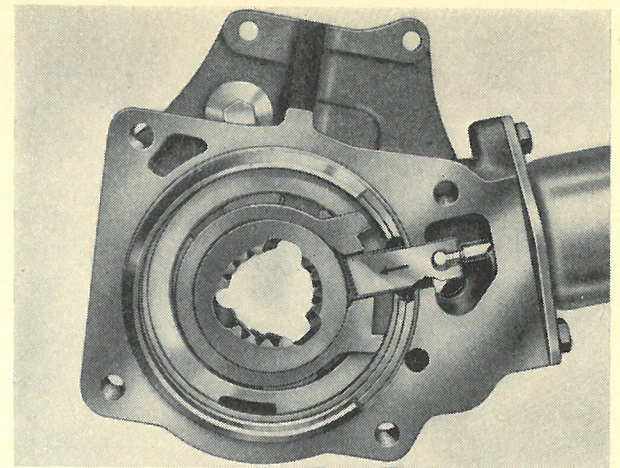

Fig. FF.12.
To effect the change into overdrive, momentarily close the throttle, whereupon the roller clutch releases and the engine slows down. At the same time the sun gear also slows down more rapidly, and when the engine speed has fallen by 30 per cent. the sun gear stands still, and then reverses its rotation. Upon the instant of reversal, the blocker ring, moved by its frictional drive from the control plate hub, also rotates slightly in the reverse direction and releases the pawl which snaps forward into the first notch of the backward rotating control plate (see Fig. FF.12). The extreme rapidity of this action ensures that the control plate cannot rotate backward more than one-third turn at the most; usually it will be less. This engagement, at nearly perfect synchronism, accounts for the smooth action of the control. Once engaged, under conditions of normal driving, the overdrive remains in action until the road speed falls to 27 m.p.h. when the governor contacts open, releasing the solenoid which withdraws the pawl (if the throttle is closed) whereupon the condition of free-wheeling drive is resumed. If the throttle is still open when the solenoid releases, the driving torque "pinches" the pawl to prevent it withdrawing; the moment the throttle is closed, the pawl is released and free-wheel direct drive is resumed.
- M3. If on assembly the blocker ring is not correctly positioned, as shown in Fig. FF.12, with the lugs on the blocker ring, one at each side of the pawl, then the pawl will be unable to move forward into engagement with the sun gear control plate. To test for this condition, remove the solenoid cover, pull the dash control knob out and roll the car forward 2 ft. (.61 m.) by hand. Earth the "Th. Sw." terminal of the relay and watch the movement of the centre stem (not the spring) of the solenoid. It should